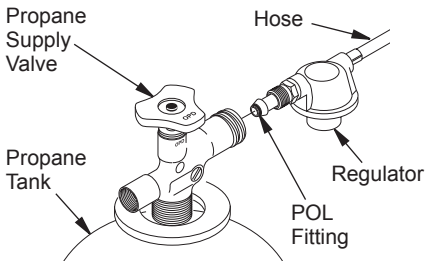

Figure 3 - Regulator Position
2. Connect POL fitting on hose/regulator assembly to propane tank(s). Turn POL fitting counterclockwise into threads on tank. Tighten firmly using wrench. **IMPORTANT:** Position regulator so that hose leaving the regulator is in a horizontal position (see Figure 3, page 5). This places the regulator vent in the proper position to protect it from the weather.